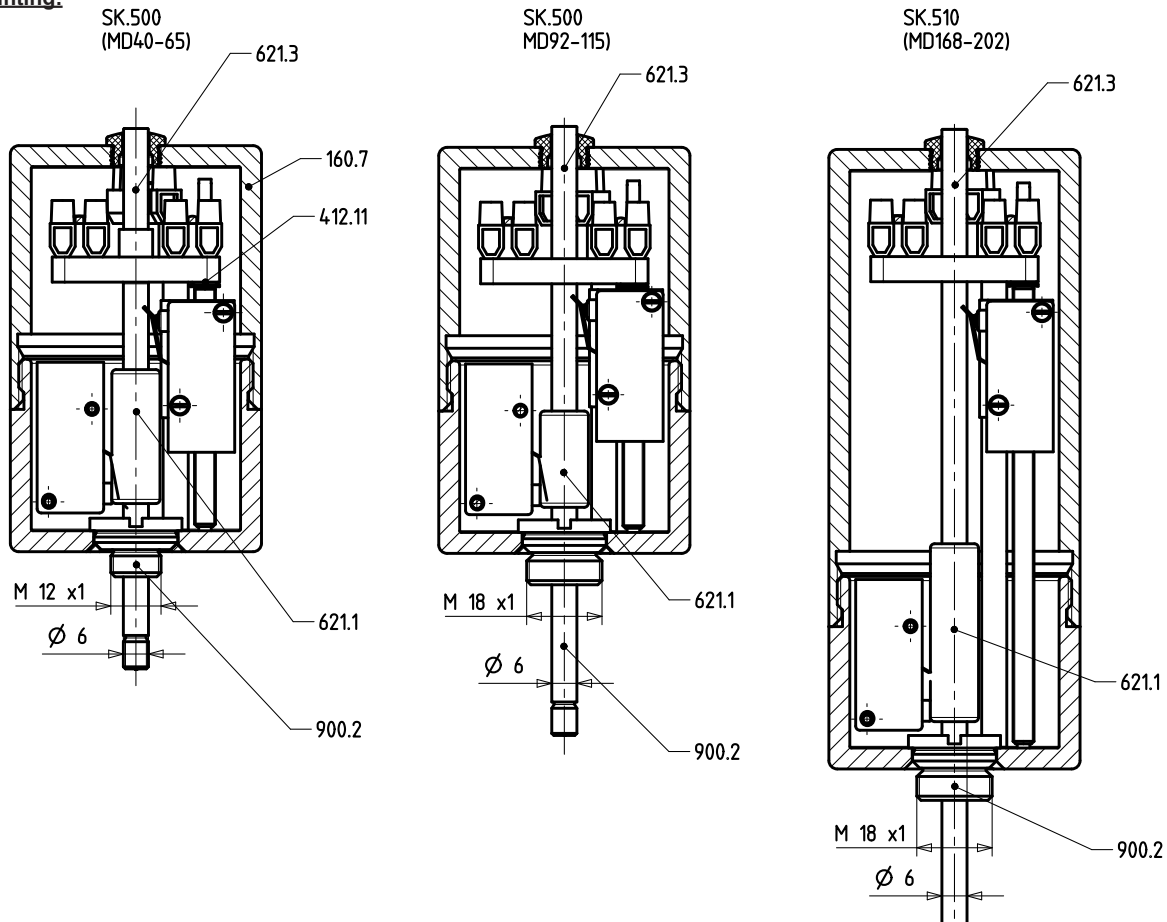

Figure 21: Overview of SK.500/510 actual-position feedback units with limit switches
Actuated valves SISTO-C: S-C LAP.520/.530 SF/OF/AZ MD 40 - 202 (Fig. 21)
For retrofitting an actual-position feedback unit indicate the valve size and actuator size in the order. The three position indicator assemblies are matched to the valve sizes (Fig. 21).
4. Remove the position indicator assembly [621.1] (Fig. 21).